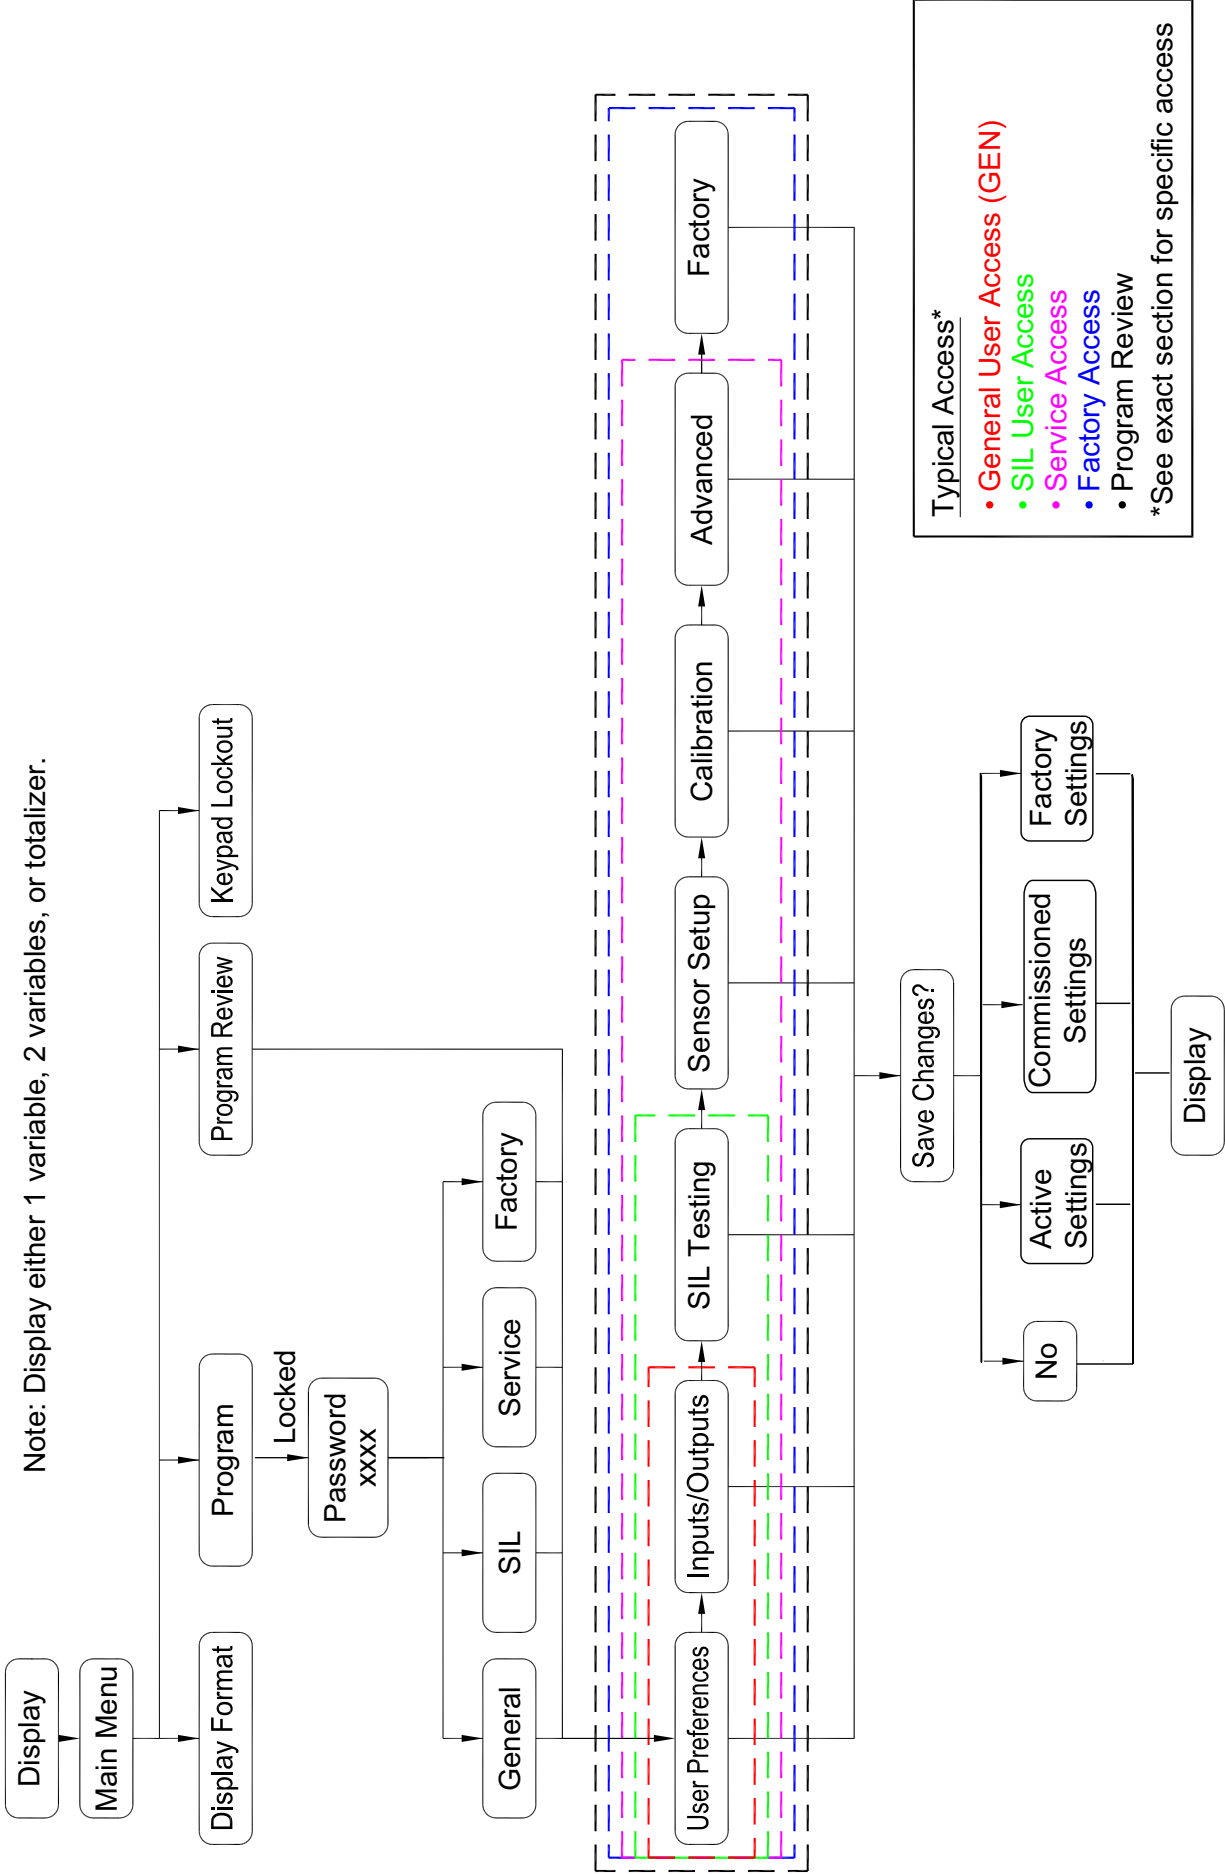

Figure 30: Meter Programming Overview
- Figure 30, “Meter Programming Overview,” on page 92